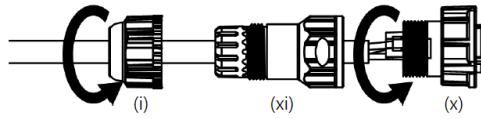

Figure 57: Step 5
5. Screw the sealing nut (i) and the assembled housing (x) onto the assembled sealing body (xi) with a torque force of 8–10 kgf-cm (Figure 57).